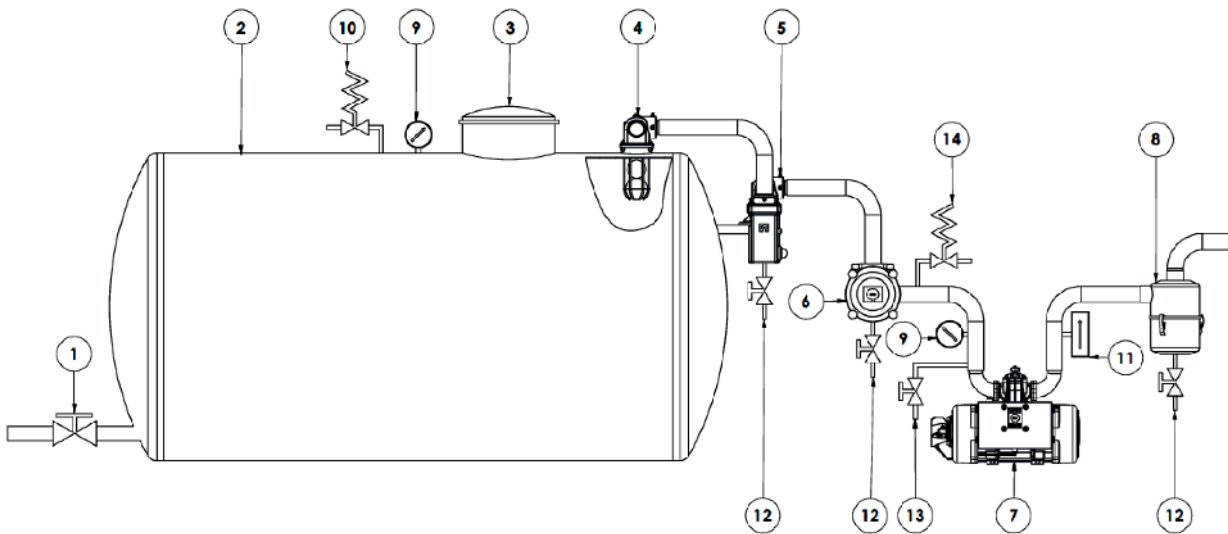

Fig. G.15 - Vacuum system diagram
For this purpose **Moro Kaiser srl** has developed a double protection system (see **Fig. G.15, page 28**).
The optional thermostat (pos.11 Fig. G.15) must be installed directly downstream of the pump (max. 50 mm distance).